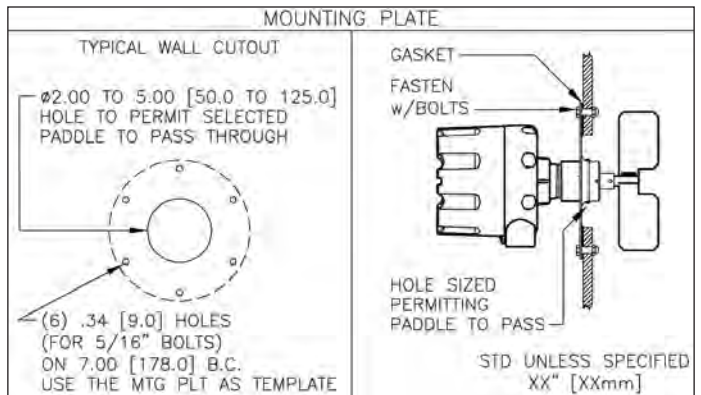

Figure 4
- 2) Plate Mounting** - Using the gasket provided with the mounting plate as a template, drill six holes at the diameter applicable to the attachment method being used. Drill six clearance holes at 11/32 inch (9 mm) diameter for use with 5/16" bolts. The bolts may be secured by tack welding the bolt heads to the vessel, or by an adjoining nut. Cut a hole (suggested size 2-5 inches (50-125 mm)) centered within the bolt circle to allow an attached paddle to fit within the bin. Attach gasket and mounting plate to the vessel positioning the conduit entrance to minimize moisture infiltration. (See Figure 4)